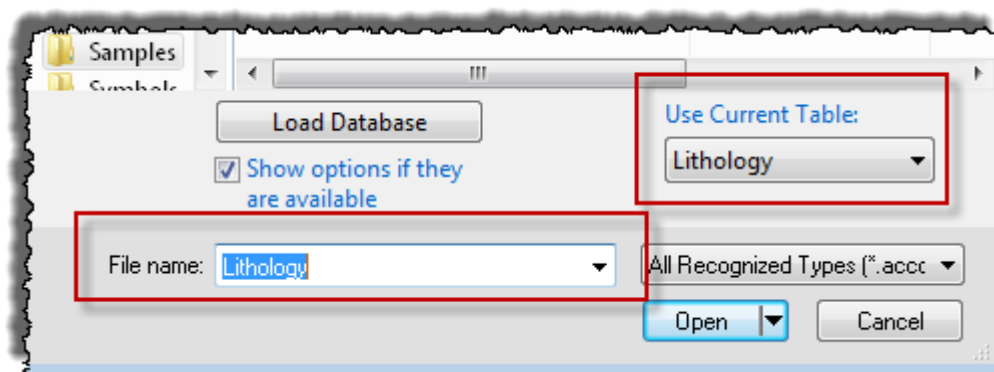

Figure 1.157 – Selecting a Lithology file
8. In the **Open** dialog, verify that *Use current table* is selected and click *Open*. The depth log is displayed. Verify that the table is selected, fig. 1.157.